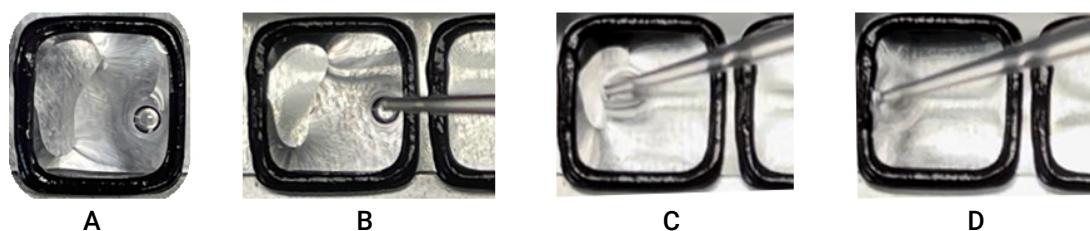

Figure 36 Sample loading rescue procedure
- If the surface tension of the liquid bead breaks, causing the sample mixture to come into contact with the edge of the gasket (**Figure 36, panel A**), use the sample loading rescue procedure described below.
- First, pop any air bubbles that may be present in the sample mixture (**Figure 36, panel B**). Use a clean, small-gauge pipette tip (e.g., a 10- μ L tip) to gently pop the bubble. Keep the pipette tip nearly parallel with the gasket slide and gently tap the bubble with the edge of the pipette tip opening. Use a fresh pipette tip for each sample. Never attempt to pop a bubble using a wet or previously used pipette tip as the capillary action will aspirate the sample mixture.
- Then, use a NEW pipette tip to spread the sample mixture evenly across the area of the gasket well (**Figure 36, panel C**). Make sure that the entire surface inside the gasket is covered with sample mixture (**Figure 36, panel D**).